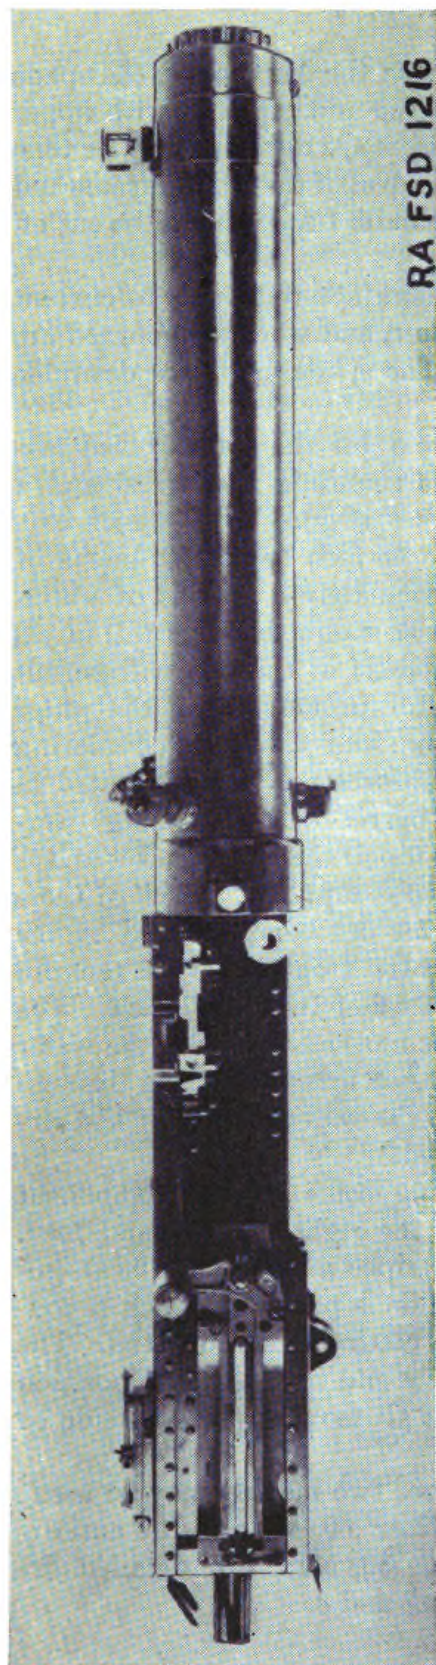

FIGURE 1.—Browning machine gun, caliber .50, M2, water-cooled (modified), right side view.
b. For use with M2 mount.—For use with the M2 mount, guns of current manufacture are assembled with a flexible back plate assembly (D35272, fig. 1). This back plate assembly is identical with the back plate assembly described in *c* below except for the omission of the spade grips and the spade grip handle frame. Normally, the side plate trigger mechanism of the mount is used to fire the gun. Therefore, the flexible back plate serves as an additional means of firing the gun while the removal of the spade grips provides needed clearance. When guns